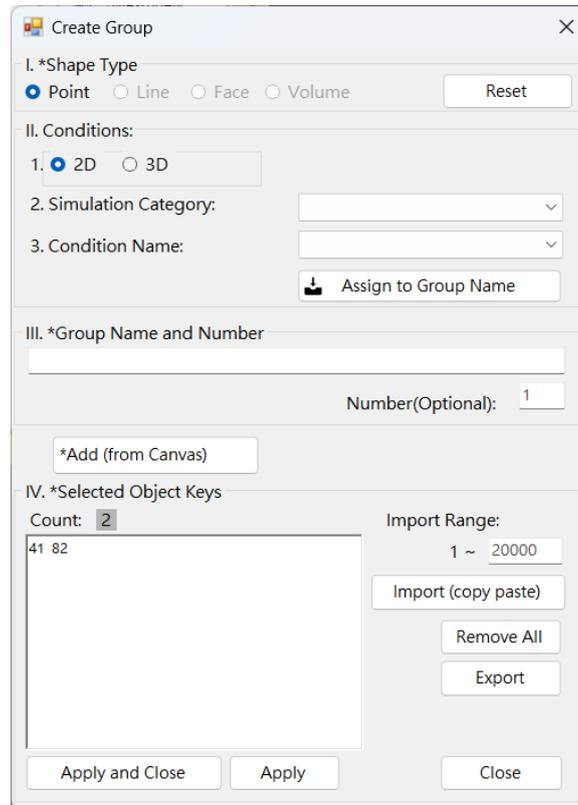
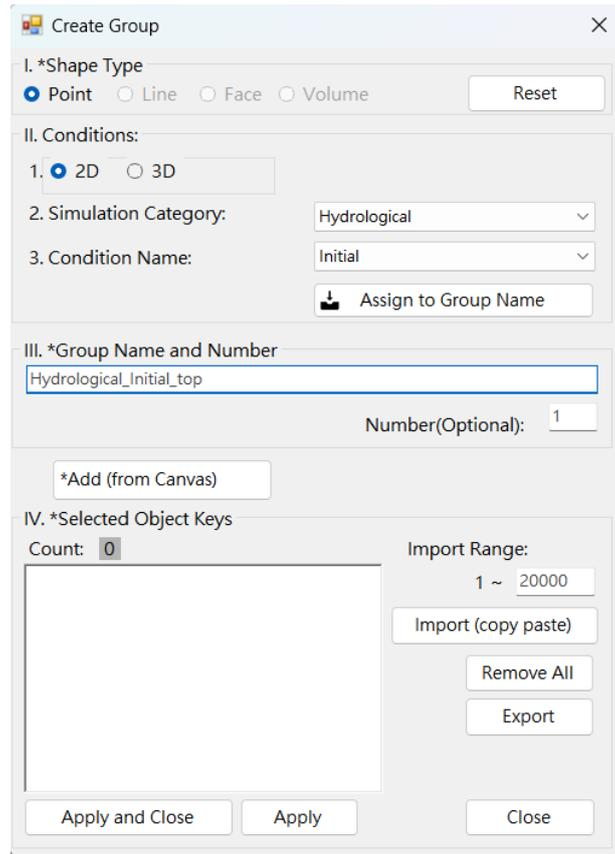

Figure 1.20. Create Group Window.
Figure 1.21. Create Group Window.
13. Then, as seen in Figure 1.20, 'Create Group' window appears.
14. In Figure 1.20, click on the list box next to '2. Simulation Category:' and select 'Hydrological'. Then, click on the list box next to '3. Condition Name:' and choose 'Initial'. Then, click on 'Assign to Group Name'.
15. In Figure 1.20, if you enter 'top' into the text box under 'III. *Group Name and Number', the result appears as shown in Figure 1.21.